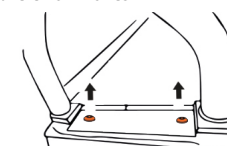

Figure G1
- Remove the plastic clips which cover the bolts. Once the remove the plastic clip, undo the bolts by using 6mm hex key. **Refer Figure G1**